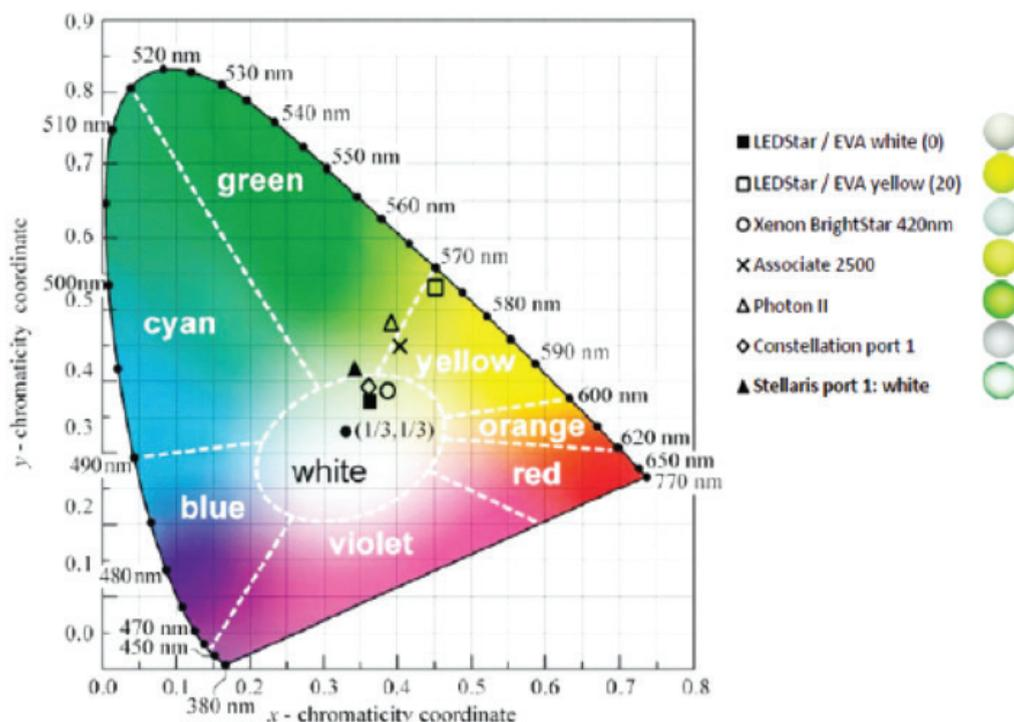

Figure 1. With the LEDStar illumination system, surgeons can control color from white to yellow and light intensity according to their preferences.
- Allows for color or light temperature adjustments (Figure 1)